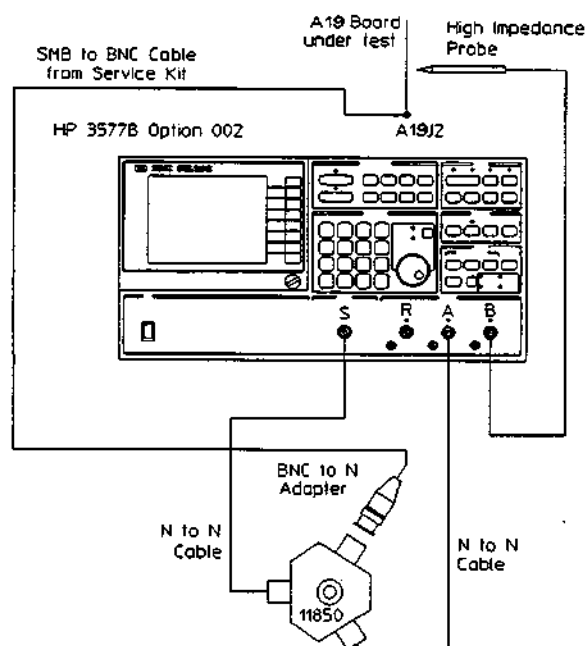

Figure 9-16. Dynamic Accuracy Troubleshooting Set Up
- i. Remove power from the HP 3577B and place the suspect receiver board on the 03577-66542 extender board. Connect the equipment as shown in figure 9-16. Use the SMB to BNC cable to connect the suspect receiver board to the Power Splitter. The set up shown is for a faulty R channel board. Adapt the set up as necessary for an A or B circuit board fault.
- j. Set the HP 3577B controls by pressing the hardkey on the left and selecting the softkey, or entering the data listed on the right. The input settings below are for an R channel fault with the test set up seen in figure 9-16. Adapt the control settings for your test set up as required by noting which channel is faulty, which is fed by the bridge and which has the 1:1 probe.